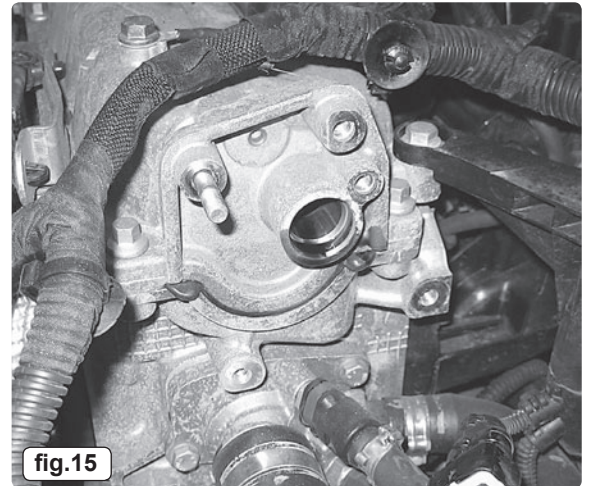

fig.15
- 3.4.1 On the 1.4 8v. engine, with VVT, the camshaft cover must be re-fitted using VS4954 Cover Alignment Fixture to ensure that the cover is correctly aligned to the cylinder head, in order that the camshaft timing sensor can be positioned correctly when re-installed (fig.15).